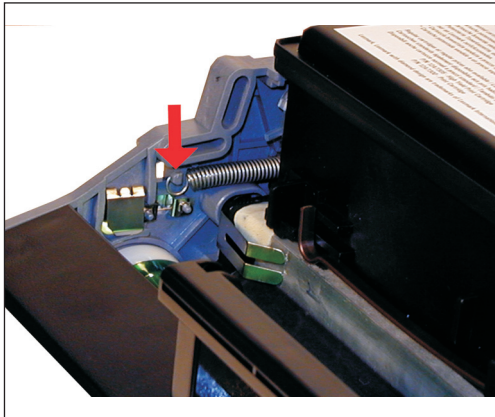

Figure 32
27) With the spring hook, grasp the small loop of the spring and place it on the small end cap post. See Figure 32